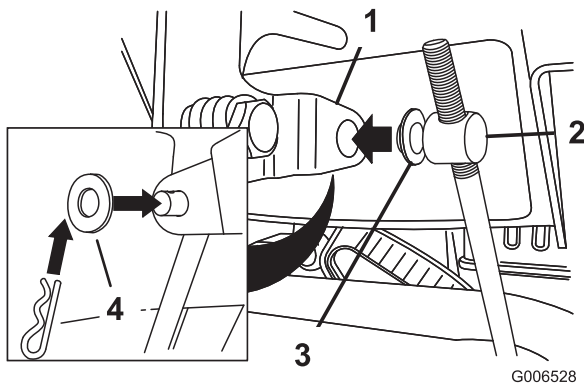

Figure 5
3. Place a flat washer on the trunnion (Figure 5).
6. Pull up on the speed control rod and insert the trunnion into the hole in the speed selector lever (Figure 5).